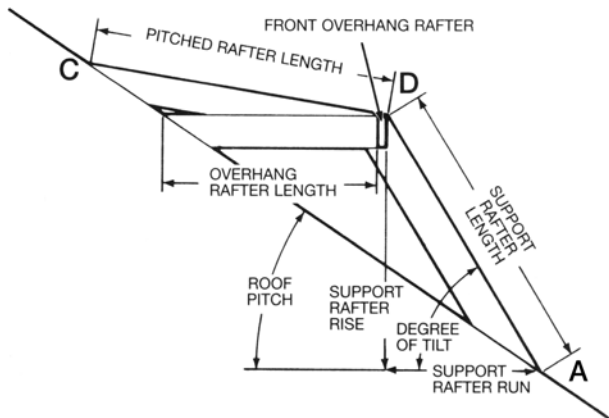

FIG. 21 Rafter Layout For A Solar Panel.
Next we need to find the horizontal overhang length (see Figure 21). It is found by finding the roof run between points A and B and then subtracting the support rafter run
STEP 2. RAFTER LAYOUTS: The support rafter bottom cut layout (at point A on Figure 21) will be made similar to a pitched door overhang. Drape the square "T" over the top (or outside) edge of the support rafter and hold the square firmly against the rafter. Then make a mark, using the angle scale, next to the angle that is found by subtracting the roof pitch angle (the roof inch rise in degrees) from the support rafter inch rise angle. In our example, we have $57 \frac{3}{4}^\circ$ (for the 19 inch rise support) minus $33 \frac{3}{4}^\circ$ (for the 8 inch rise roof) or 24° . From this mark, draw a line to the pivot point and you will then have the bottom cut layout. The support rafter top cut layout (at point D in Figure 21) is similar to the bird's mouth layout. First measure up the outside of the rafter the rafter length from the bottom cut and then draw a plumb line using the support rafter inch rise. Now, instead of measuring down the seat depth, measure down the overhang rafter width and make a horizontal line going to the roof edge of the rafter.
The pitched rafter top cut layout (at point C in Figure 21) is the same as the support rafter bottom cut layout (at point A). For the pitched rafter bottom cut layout (at point D) the following equation is used: